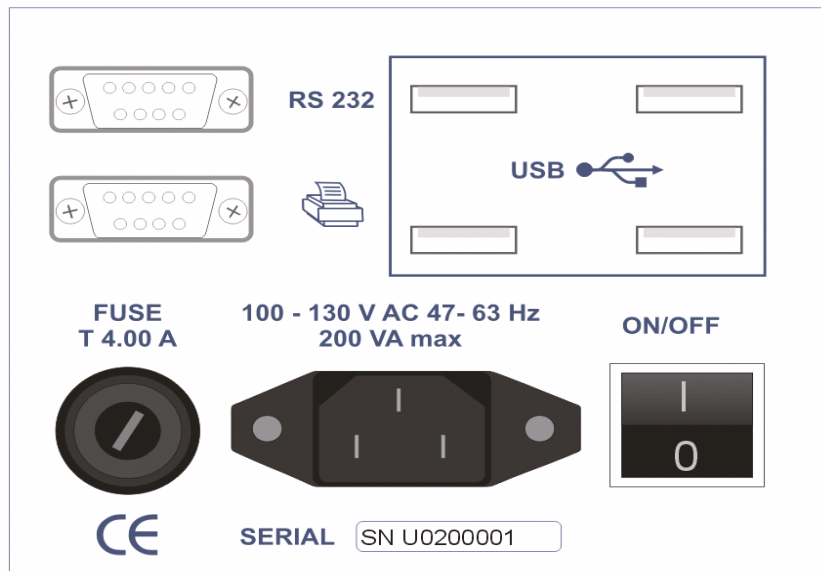

Fig. 5
After the connecting the power cable to the electrical network and turning the power on using <On/OFF> switch ( see Fig. 5) the device start its work with a procedure that checks all critical components ( power block, sensors etc.) and also deleting of obsolete files from the build-in SD card - data collection files, error log files and diagnostic files ( see items 5.4.7.1, 5.4.7.2 and 5.4.7.3 ).